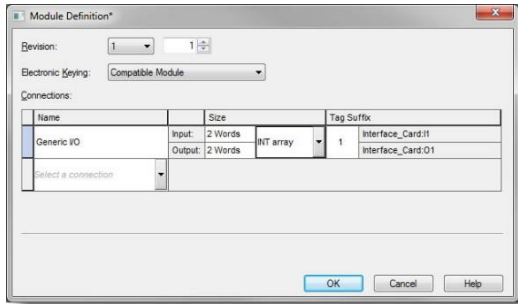

Figure 32: AOP Generic I/O Module Definition
- Configure the Generic I/O connection. Refer to Figure 32.